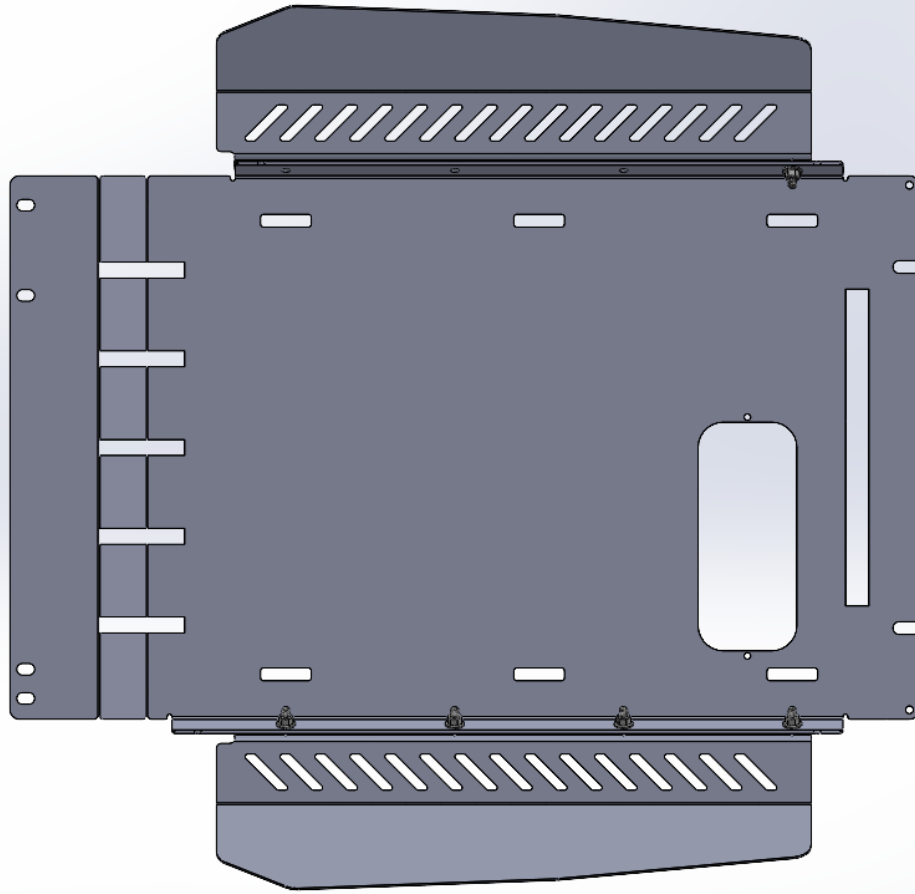
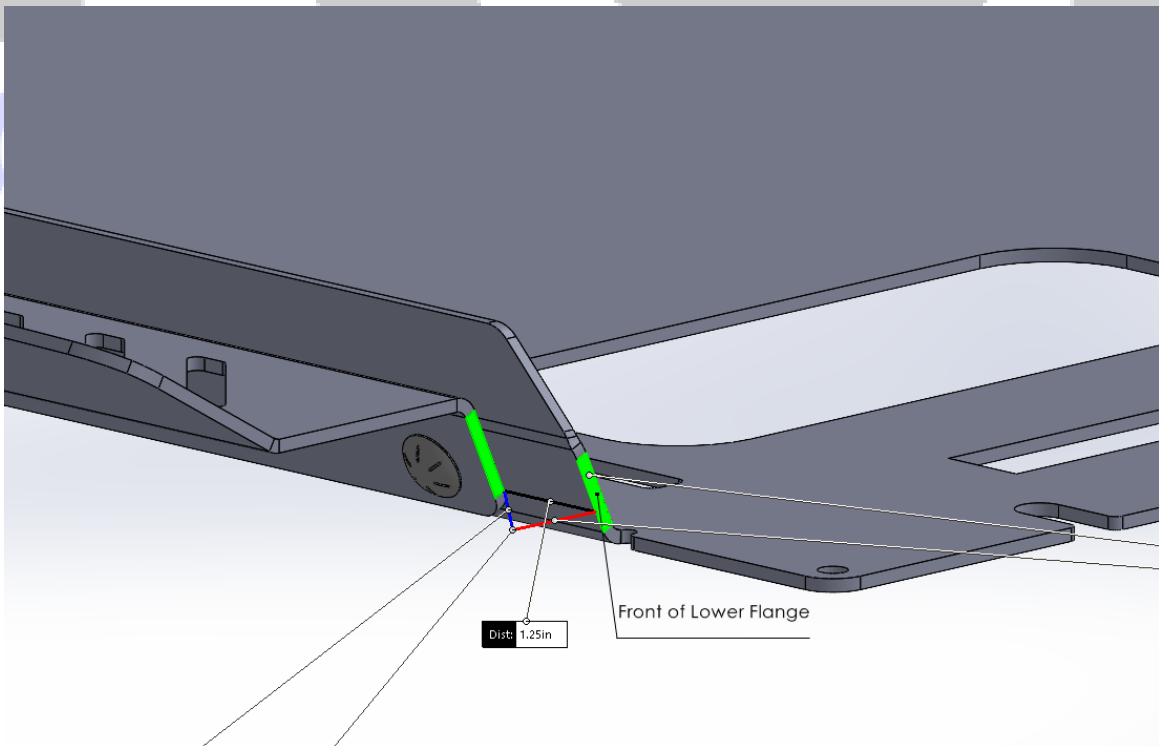

FIGURE 1
FIGURE 2
- 3) With the transmission skid plate removed from the vehicle, align the Driver Side CAT Guard(C1) 1.25" from the front of the lower flange present on the driver side of the transmission skid plate and clamp it in place. (Figure 1)
- 4) Please adjust the alignment of the CAT Guard based on the photos below in Figure 1 and Figure 2.